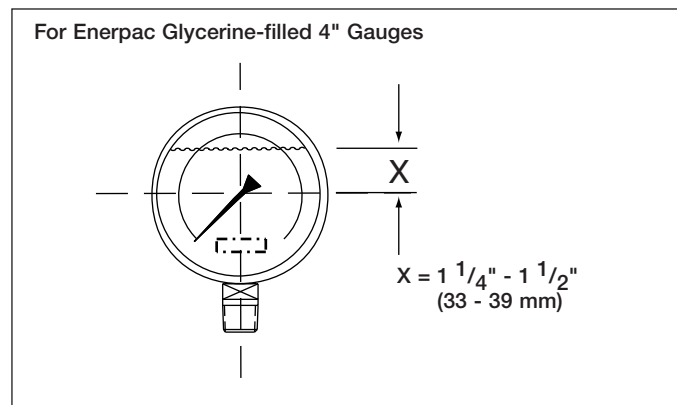

Figure 1
- Using a funnel, fill the gauge until the liquid begins to appear at the bottom of the dial and allow the liquid to level off. Very thick fluids (such as glycerine at room temperature) flow extremely slowly down the back of the case and can overflow through the filling hole before the gauge appears to be full on the face. After the liquid has settled at the bottom of the gauge, continue to fill slowly, allowing the liquid to level off several times, until the proper amount of liquid has been added. (See Figure 1.)